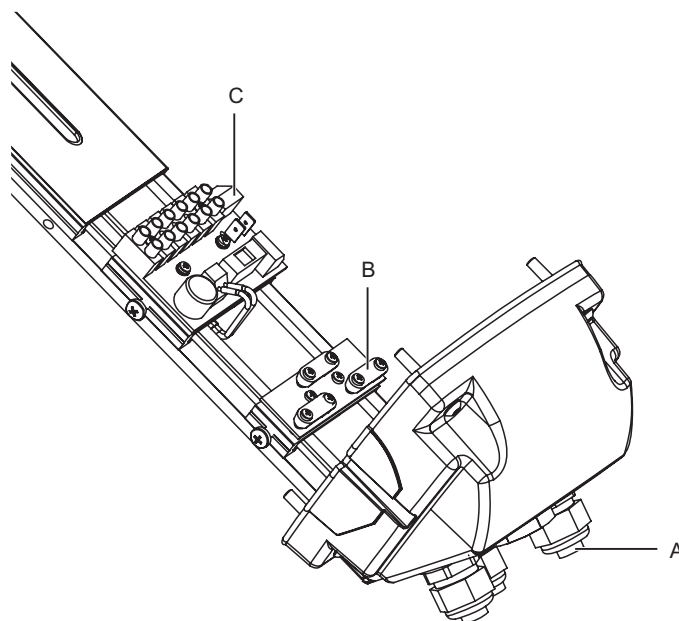

Fig. 7 Power cable entry
1. Select the most suitable cable gland entry, (see section 3.1 for sizes) and remove the blanking plug supplied in the gland **(A)** (See Fig. 7).